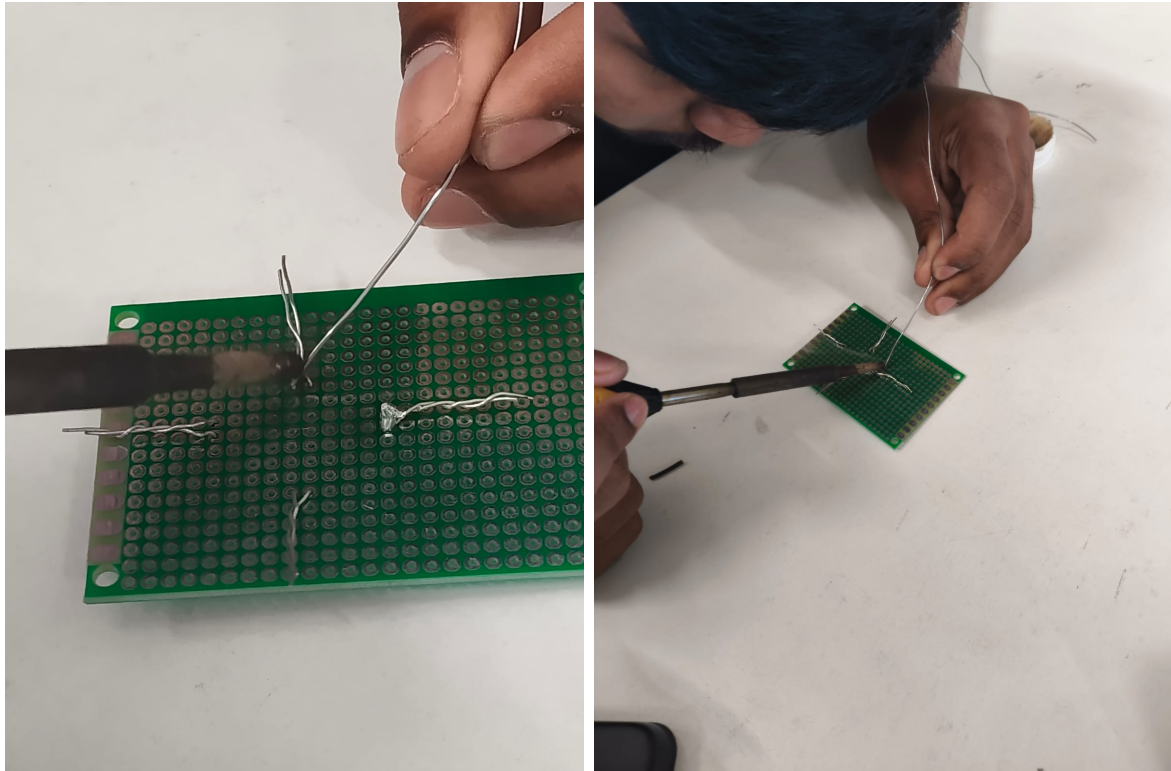

Figure 3: Arrangement of Diodes on the PCB
0.4 Work Done (Figure: 3)
We then arranged the diodes on the PCB and twisted the ends of the diode as shown in Figure: 3. We soldered each of the two diodes as shown in Figure: 3.